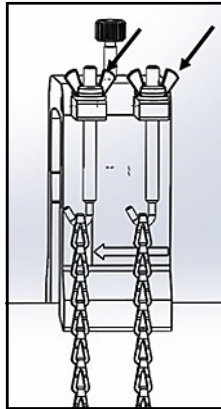

Figure 31: Secure the Yoke
7. Tighten the nuts to secure the yoke to the pipe (see Figure 31 below).